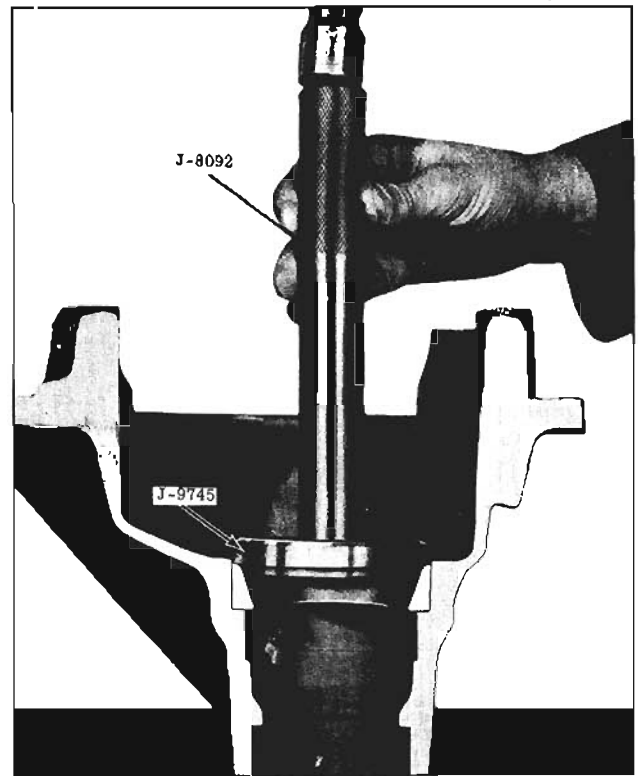

Fig. 10-28 Installing Rear Bearing Outer Race
- Press outer race of rear pinion bearing firmly in place against shoulder in the carrier. (Fig. 10-28)